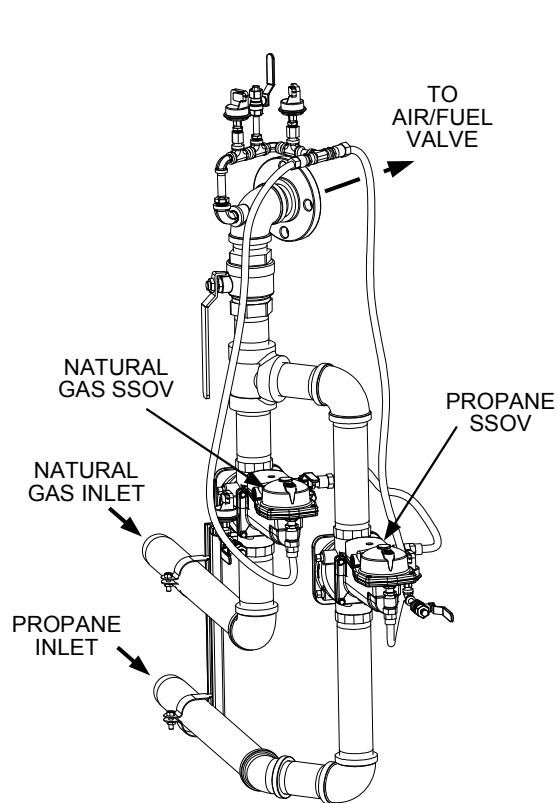

Figure 3-3.
2. The unit checks to ensure that the Proof of Closure (POC) switch in the Safety Shut-Off Valve (SSOV) is closed. See Figure 3-3 for SSOV locations.